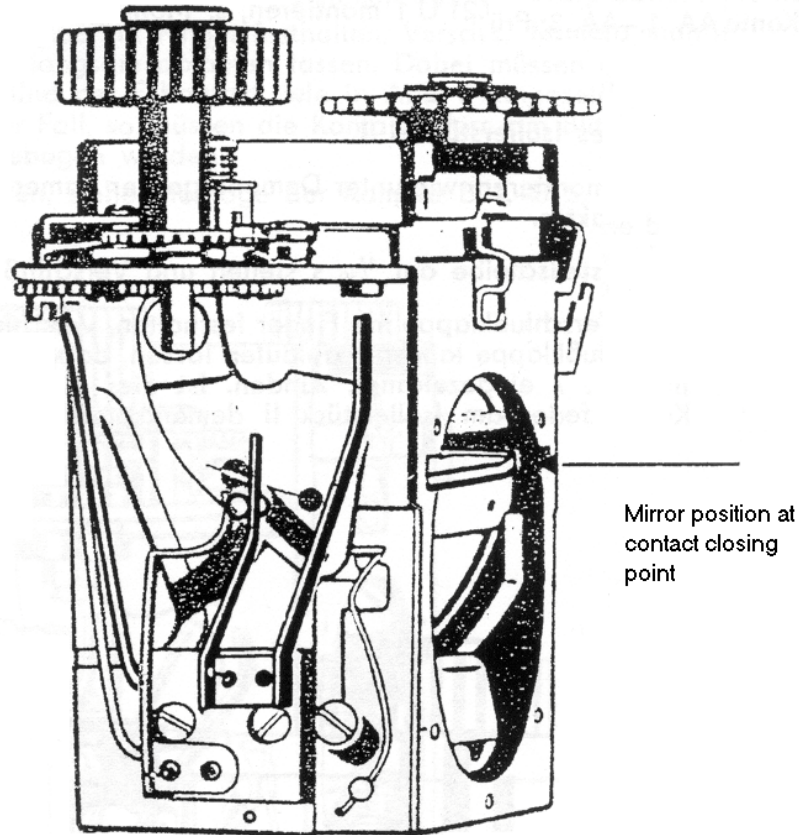

Fig. 8
- ff) Hold [restrain?] the shutter flap, release the shutter and let the shutter flap run slowly; the X-contact must fire as shown in Fig. 8. If this does not occur, the contact spring for insulating-part II must be bent accordingly.